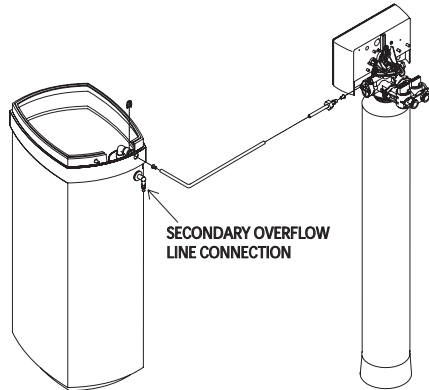

Figure 7
- Slide the brass compression nut over the end of the brine line, followed by the ferrule and tube support. Attach the brine line to the brass fitting on the right side of the valve (see figure 7).
- Insert a tube support into the other end of the brine line and push the brine line into the brine safety float elbow. Use a locking clip to secure the connection (see figure 7).
- Run a 1/2 inch I.D. brine overflow line from the overflow elbow on the side of the brine tank to an approved drain (see figure 7).